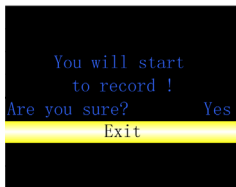
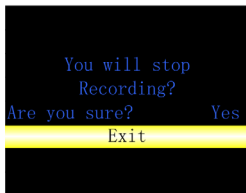

Figure 5.6 Record setting menu
Figure 5.7 Recorded time interface
- When "Record" is "OFF", select it to enter record setting menu shown as Figure 5.6. The prompt information "You will start to record! Are you sure?" displays on the interface, select "Exit" after setting to "Yes" to enter the record interface, under record interface, record sign is "REC ●", it indicates that it is recording when "●" flickers, recorded time displays on the interface shown as Figure 5.7. Select "Exit" after setting to "No" to enter the interface which will not record.